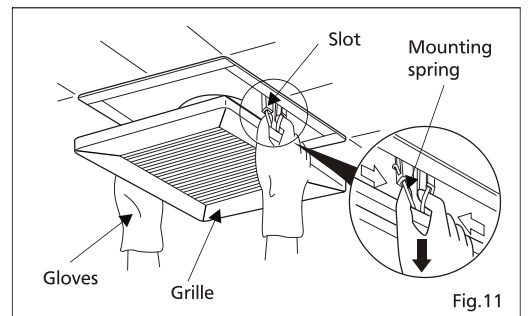

Fig.11
1. Remove grille. (Squeeze mounting spring and pull down carefully) (Fig.11).